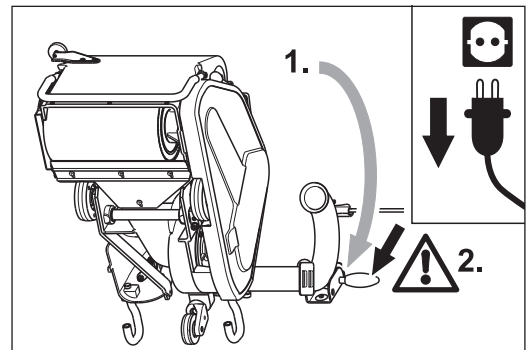

Fig. 57 Tilt the machine backwards (1.). **Ensure that the machine is standing securely (2.)!**
- 3** Tilt the machine back over the safety guards (Fig. 57, 1.). **Ensure that the machine is standing securely (Fig. 57, 2.)!**